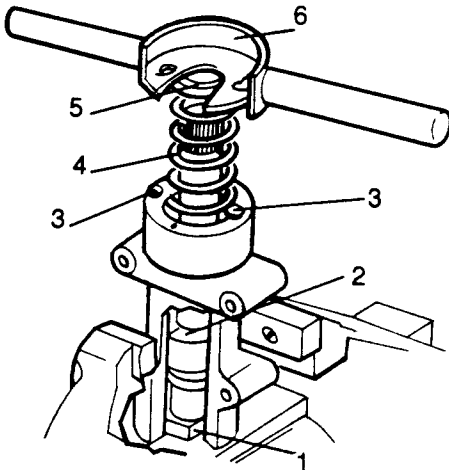

Fig L5.14
- (4) Refer to Fig L5.14. Secure the housing and shaft assembly, bottom end uppermost, in a vice with a 19 mm support block (1) under the bottom end of the shaft.
- (5) Insert the washer (2) for the spring into the housing and fit two of the oil seal retainer fixing bolts (3) into the housing diametrically opposite each other.
- (6) Fit the spring (4) and washer (5).
- (7) Using special tool 600536 (6) carefully compress the spring.
- (8) Turn the tool to lock in position with the key-hole slots under the heads of the bolts.